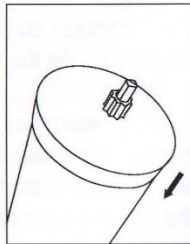

Figure 2
4. Place the lid on the canister. (Figure 2)